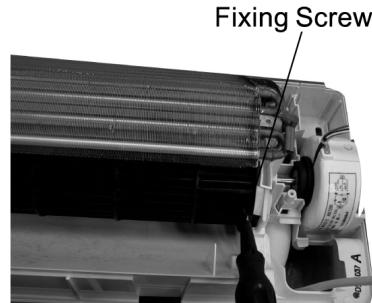

Fig 7
4. Release fixing screw of the cross flow fan. (**Fig 7**)